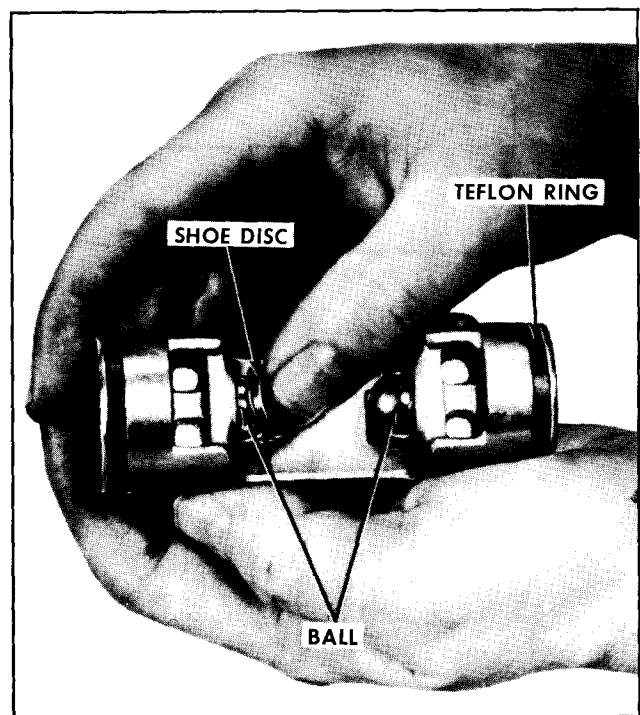

Figure 76—Installing Front Shoe Disc
7. Lubricate cavity of a ZERO shoe disc with 525 viscosity refrigerant oil and place shoe disc over ball in front end of piston (figure 76). Front end of piston has an identifying notch in casting web (figure 71).